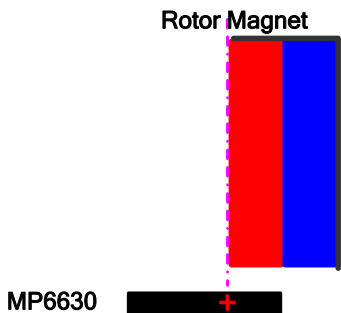

Figure 10: Aligning the Hall Element with the Inner Surface of the Rotor Magnet (Side View)
Step 1: Ensure the MP6630 picks up the highest magnetic field possible. Generally, the inner surface of the rotor magnet provides highest magnetic field strength. The MP6630 Hall element should align with the inner surface of rotor magnet (see Figure 10).